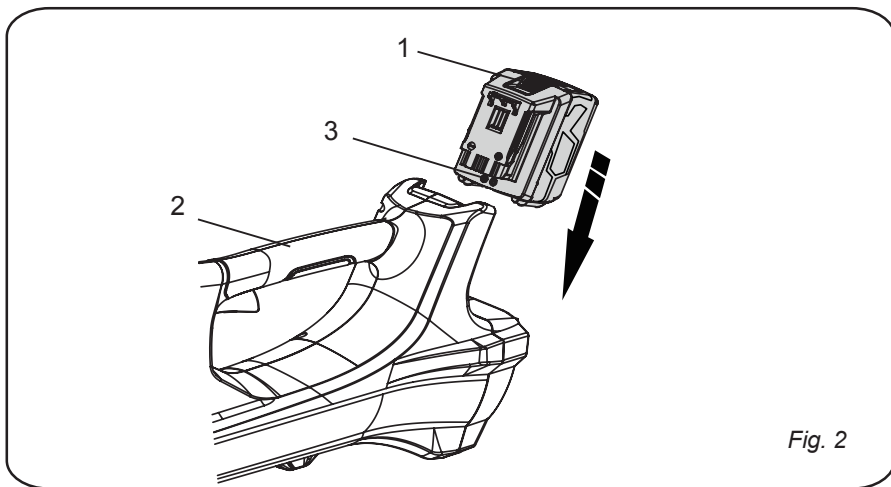

Fig. 2
**To remove** (See Figure 2.)
1. Press and hold the latch button (1).
**To install** (See Figure 2.)
1. Align the tongue (3) of the battery pack with the cavity in the handle housing.
2. Grasp the handle firmly (2).